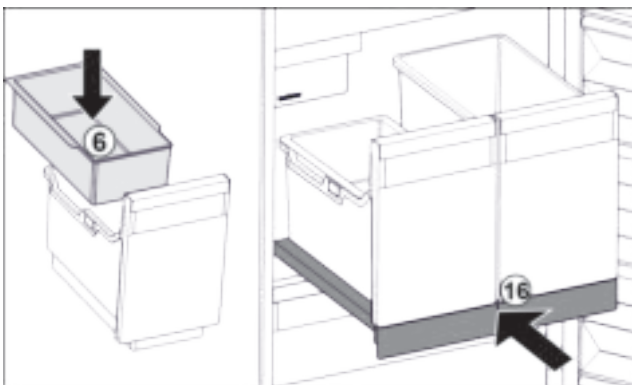

Fig. 25
- ▶ Insert hang-on tray Fig. 25 (6) for ice cubes.
- ▶ Slide in the pull-out board with container (IceTower). Fig. 25 (16)